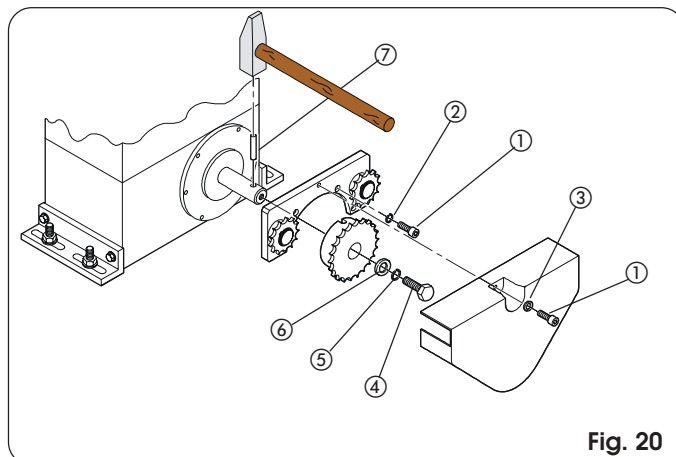
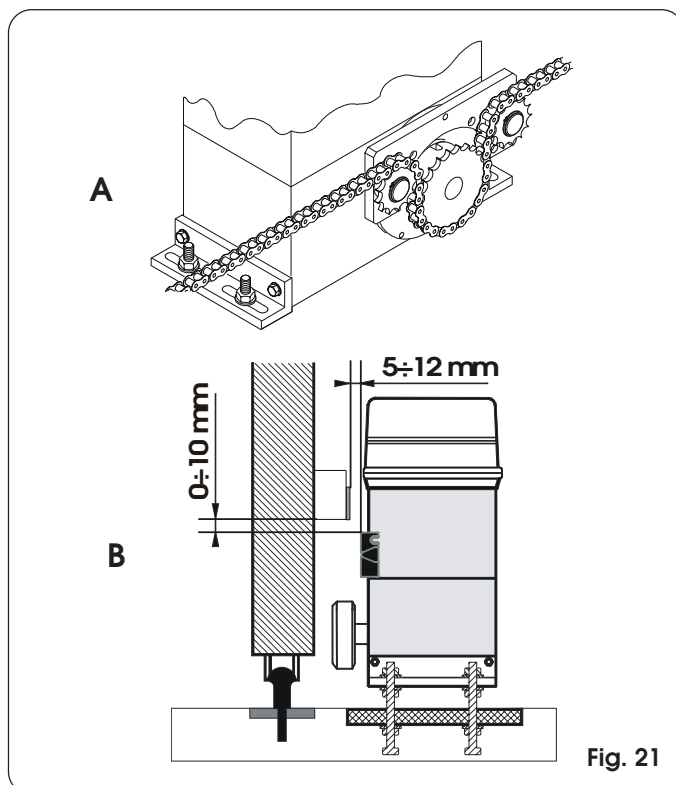

Fig. 20
Fig. 21
4.5.2. MOD. 746 ER RF (Figs. 20 - 21)
- 1) Insert the spring pin ⑦ on the shaft, using a hammer.
- 2) Fit the idle transmissions bracket on the gearmotor flange, using the four screws ① (M5 x 12) and the appropriate washers ②, in the kit as shown in Fig. 20.
- 3) Fit the chain pinion on the shaft, making the pinion seats coincide with the spring pin and tighten the screw ④ and the appropriate washers ⑤ and ⑥.
- 4) Pass the chain as shown in Fig. 21 ref. A and install the housing with screw ① and washer ③ as in Fig. 20.
- 5) In case of operators with MLS limit switches, arrange the supports for the positioning of the magnets supplied while observing the dimensions given in fig. 21 ref. B.